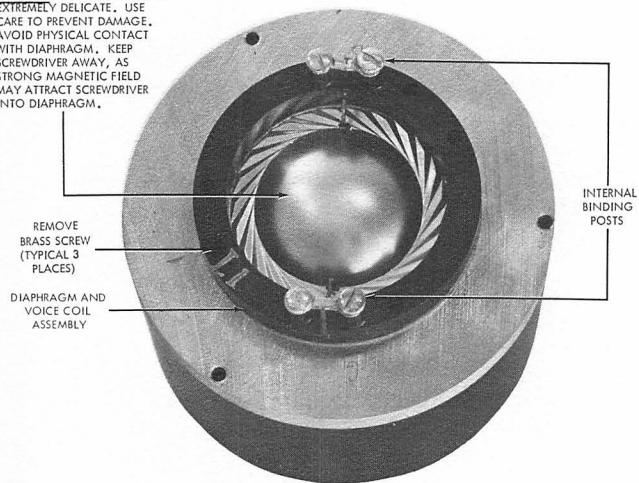

Figure 2. Diaphragm and Voice Coil Assembly Exposed
- Step 4. Lift cover from driver and remove two leads from internal binding posts (see Figure 2). Set cover aside.
Step 6. Carefully remove three brass screws securing diaphragm and voice coil assembly (see Figure 2). Discard screws.